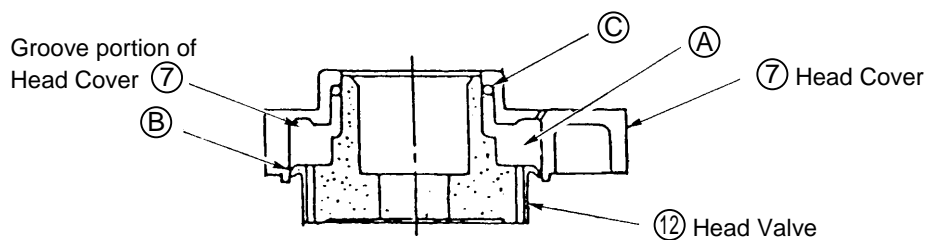

Fig. 14
- Reassembly of the Head Valve (12) can be facilitated by first inserting it into the Head Cover (7). Prior to reassembly, coat grease (Hitachi Motor Grease, Code No. 930035, is recommended) on sliding portion (A) of the Head Cover (7) and lip portions (B) and (C) of the Head Valve (12). Also coat the same grease (approx. 0.5g [.018oz]) onto the groove portion of the Head Cover (7). (Refer to Fig. 14)
- Lightly coat oil (Shell Tonna T32 Oil) onto the inner surface of the Piston Ring (13) and Cylinder (19).
- Ensure that Packing (A) (6) and Packing (B) (8) are assembled so that their air vents are properly aligned with the air passage vents of the Head Cover (7) and Body (24).